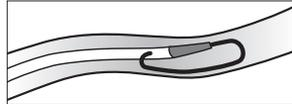

Figure 4
**⚠️ Precaution:** If resistance is encountered when attempting to remove guidewire after catheter placement, guidewire may be kinked around tip of catheter within vessel (refer to Figure 4).